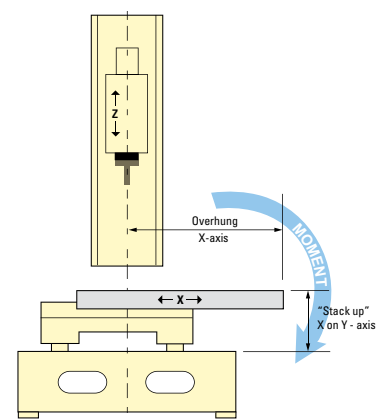

Figure 3
- The X axis is overhung from the Y axis (Figure 3)